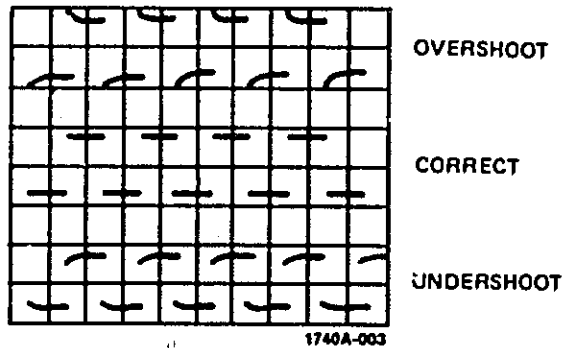

Figure 3-2. Probe Compensation
b. Connect divider probe cable to channel A INPUT ⑳ connector.
- g. Adjust TRIGGER LEVEL ⑩ for stable display.
- h. Adjust divider probe compensation for correct display (see figure 3-2).